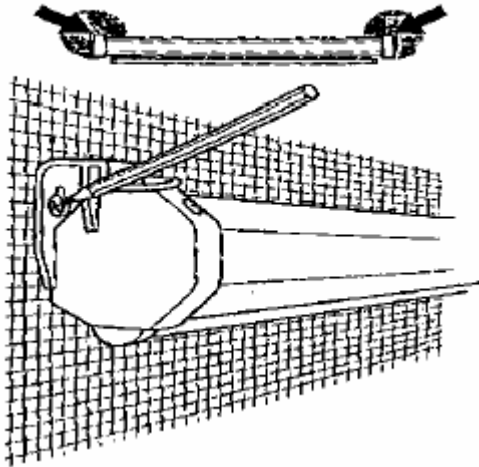

Fig. 1
1. Using a tape measure, mark the keyholes that are located at the back of the screen's case end cap. 2. After marking the area and predrilled hole, insert the screw and leave the screw's head out about 4mm (1/8") from the wall to mount the screen on. (**Fig. 1**)